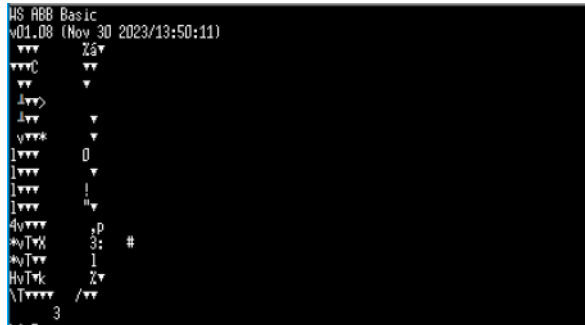

Figure 6 Binary telegram in TeraTerm
- i. After approx. 20 seconds, the binary telegram is automatically started again, and output as shown in Figure 6 or comparable. The weather sensor has now been successfully updated. The weather sensor Basic must now be correctly connected to the weather center again.